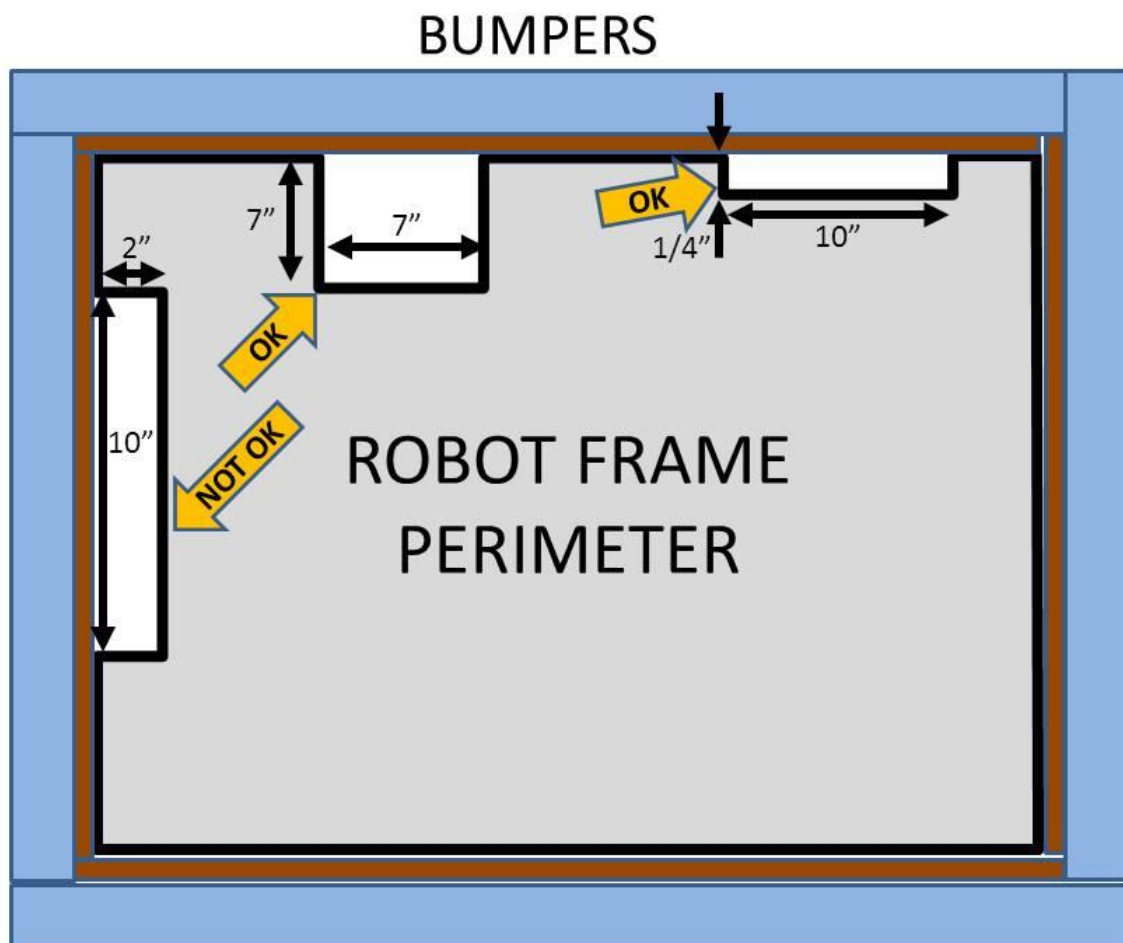

Figure 4-7
- [R33] Bumpers must be supported by the structure/frame of the Robot (i.e. the gap between the backing material and the frame must not be greater than $\frac{1}{4}$ in. and no section of Bumper greater than 8 in. may be unsupported). See Figure 4-7.